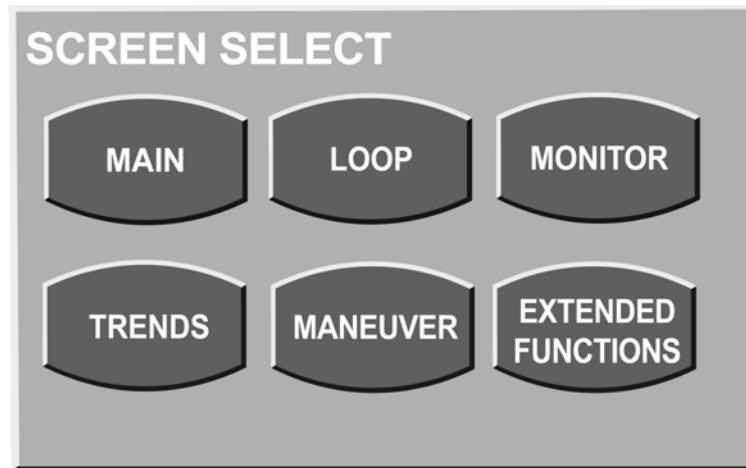

Figure 4.6 Screen Select Box
2. The Screen Select box displays, see figure 4.6.